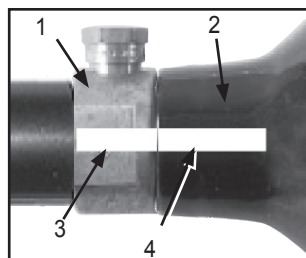

Figure 9: Properly marked Valve and Cylinder
The brass or nickel plated cylinder valve (Figure 9, #1) is intended to be permanently attached to the air or CO2 cylinder (2).
Refer to Figure 9. There have been reported incidents caused by players unknowingly unscrewing the cylinder (2) from the cylinder valve (1). This occurs when the player thinks the entire valve-cylinder assembly is being unscrewed from the air/CO2 adapter of the paintball marker, when in fact he or she is unscrewing the cylinder from the cylinder valve.
4. Watch the marks on the cylinder and cylinder valve (Figure 9) as you turn the cylinder approximately $\frac{3}{4}$ turn counterclockwise. This allows the air/CO2 valve pin to close so that no air/CO2 will enter the marker.